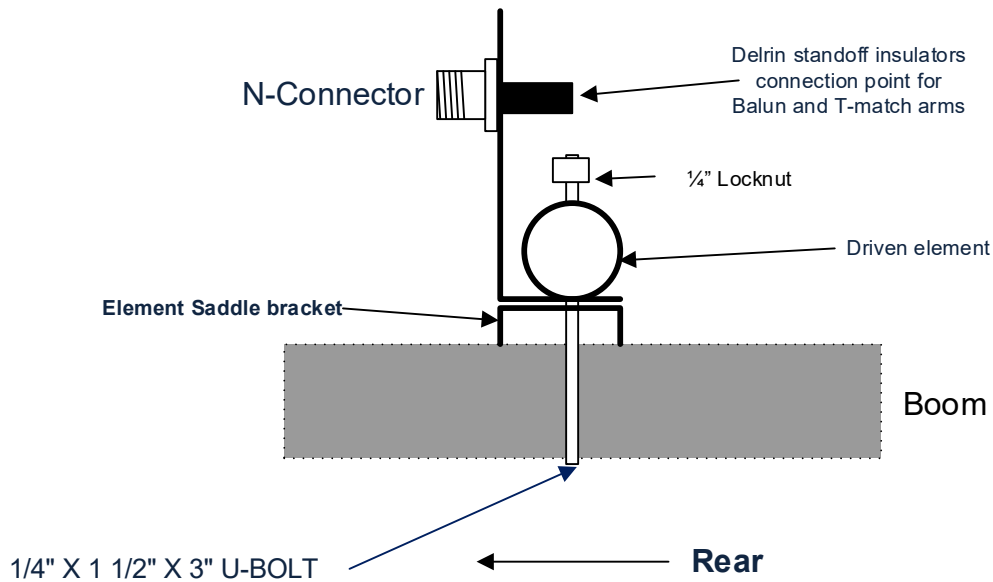

Figure 2
- Similarly, assemble the Director (D) and attach it at the appropriate mark on the boom, making sure the element is perpendicular to the Reflector.
- The Driven Element (DE) mounts the same way; however, the connector bracket sits between the element and the element to boom saddle (see Figure 2).